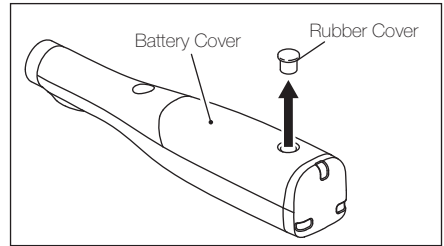

Fig. 11
2. Remove the rubber cover from the battery cover with a thin flatblade screwdriver. (Fig. 11)